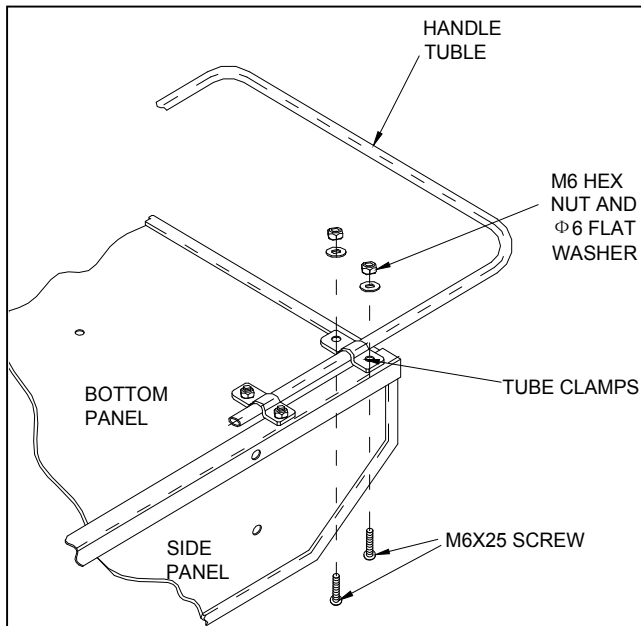

**FIGURE 9**
15. Lay the cart down the floor so that the sides are in the normal upright position. remove the front panel by sliding it up, then remove the four large washers you used for shims. See figure 9.